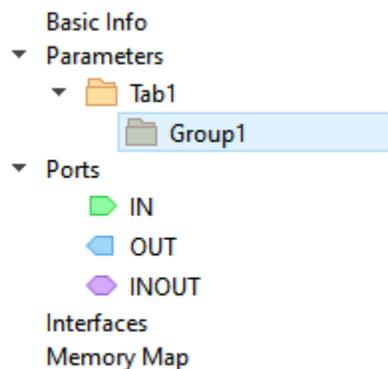

Figure 3.11. Group1 Added to Tab1
- Right-click **Tab1** under **Parameters** from Meta Data view, and choose **Add Parameter Group**. **Group1** is newly added under **Tab1** (Figure 3.11). Group1 is used to group the settings. Settings of the same “group1” are displayed as sub-items under a group item on GUI. The settings with the same “group1” should be written continuously if you want GUI to group them under one group item, otherwise you can see multiple groups with the same name in GUI. Tab1 is used to Group the “group1” groups. “group1” groups of the same “Tab1” are displayed in a separate page on GUI. So, two level hierarchy is supported in GUI display. Unlike ‘group1’, you need not write setting nodes with the same ‘Tab1’ continuously but you must follow the rule for ‘group1’ that all the settings with the same ‘group1’ must be in the same ‘Tab1’.